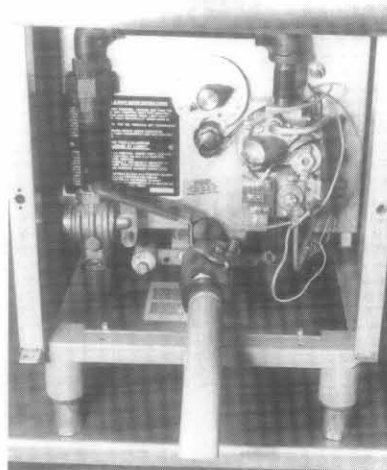

Fig. 4
- a. Turn the fryer gas valve knob to PILOT. Screw the drain pipe (provided with fryer) into the drain valve. Make sure the drain pipe is firmly screwed into the drain valve and that the curved end is pointing down. See Figure 4.